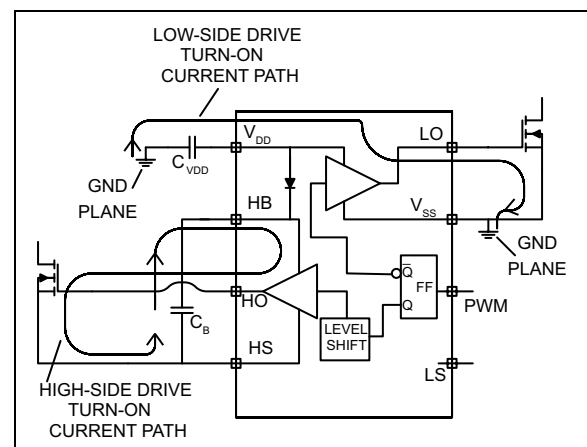
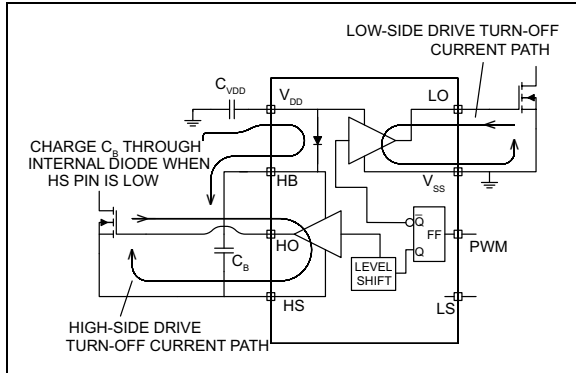

FIGURE 6-5: Turn-On Current Paths.
FIGURE 6-6: Turn-Off Current Paths.
Figure 6-5 shows the critical current paths when the driver outputs go high and turn on the external MOSFETs. It also shows the need for a low impedance ground plane. The charge needed to turn-on the MOSFET gates comes from the decoupling capacitors C_{VDD} and C_{B} . Current in the low-side gate driver flows
Figure 6-6 shows the critical current paths when the driver outputs go low and turn off the external MOSFETs. Short, low impedance connections are important during turn-off for the same reasons given in the turn-on explanation. Current flowing through the internal diode replenishes charge in the bootstrap capacitor, C_{B} .
- Trace out the high d_i/d_t and d_v/d_t paths, as shown in Figure 6-5 and Figure 6-6 to minimize the etch length and loop area for these connections. Minimizing these parameters decreases the parasitic inductance and the radiated EMI generated by fast rise and fall times.